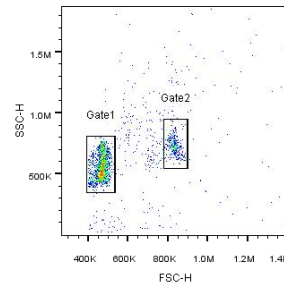

Figure 1
2) Run setup beads. Adjust FSC and SSC gates to ensure the bead populations are on scale. Create gate for two different size bead populations (Figure 1).